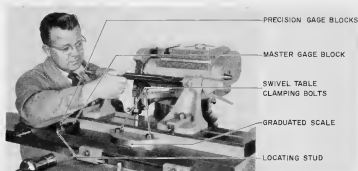
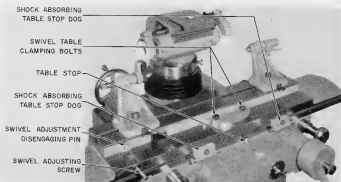

Figure 24A
Figure 25A
The workhead and/or the tailstocks are mounted on an auxiliary swiveling table, carried by the machine sliding table. This table provides the means by which the work may be swiveled clockwise or counter-clockwise to grind tapers. The swivel table may be clamped or unclamped in any position by means of the swivel table clamping screws (Figure 24A).
To assist in accurately setting up for taper work, the left-hand end of the machine table is provided with a unique taper setting device that assures accurate grinding of tapers up to 5" per foot, without resort to a "cut and try" technique. Based upon the trigonometric function of the tangent of the angle, the "Swivel Table Tange-Bar Taper Setting Device" (Figure 24A) enables you to adjust the swivel table to the correct taper per foot simply by inserting precision gage blocks between the swivel table taper setting master gage block and a stud on the sliding table (Figure 24A).
1. Loosen swivel table clamping screws and position swivel table until there is sufficient room to insert master gage blocks supplied with the machine and precision gage blocks equal to .025", one half of the .050" taper per foot desired, (Figure 24A).
Computation of the gage block setting, when the included angle of the taper is known, is obtained by multiplying the tangent of one half the known value of included angle by 12. Replacing either this value or the given value of taper per foot from the centerline, as the case may be, with the corresponding precision gage blocks enables you to accurately position the swivel table to grind the taper. Greater swivel settings of the table, as sometimes required when grinding large cutters, may readily be obtained. Rotate the swivel adjustment disengaging pin $\frac{1}{2}$ turn (Figure 25A), remove master gage blocks (Figure 24A), and with the clamping bolts loose, swivel the table to the desired angle using the graduated scale on the swivel table (Figure 24A).
Swivel Table "Taper Per Foot Device" Adjustments. The swivel table may be adjusted forward or backward (considering the graduated end) for tapers up to 2 inches per foot, indicated by the scale in the sliding table. Loosen the two clamping bolts before turning the swivel adjusting screw (Figure 25A).
Table Dogs. The table dogs can be used either for positive stop or spring cushioning the table stroke. When set as shown in Figure 25A, these dogs will not only govern the length of table reverse but absorb the shock at the end of each stroke and smoothly reverse the direction of the table. If a positive stop is necessary, remove nut holding dog to front table "T" slot and reverse dogs from one side to the other. Also in this position, a fine adjustment can be made by merely screwing out knurled screws on the dogs (Figure 27A). The spring cushioning position is generally the setting for the majority of cutter sharpening operations.